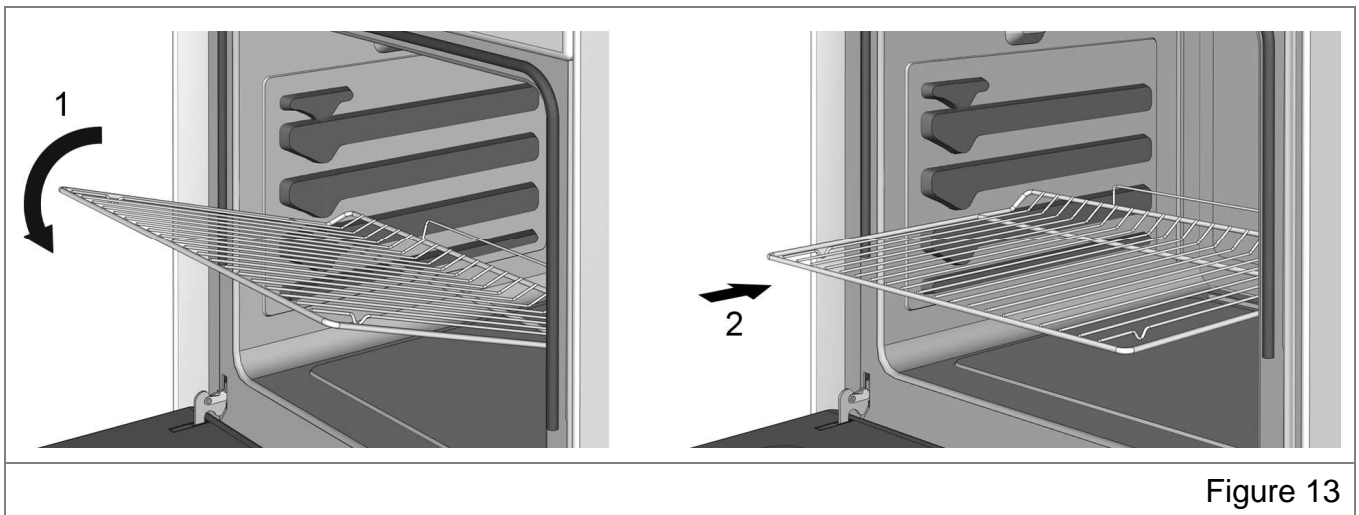

Figure 13
To place the rack properly in the oven (Figure 13), insert it on the desired guide level, put it down in the direction (1) and push it to the end (2). The rack guard shall face the rear wall of the oven. When pulling the rack out with the full tray on it, its shape and the guide will prevent accidental overturning, which is useful for safe determining the progress of food being cooked and its overturning during the cooking.